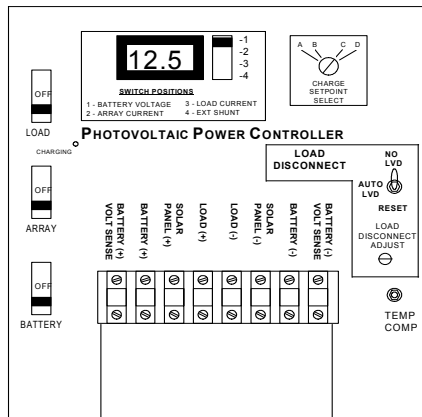

Figure 2-14
- a. The Range Power Box (RPB, Figure 2-14) is a commercially available photovoltaic power controller primarily used on ranges to act as a convenient place to connect the solar array, battery and range lantern(s).